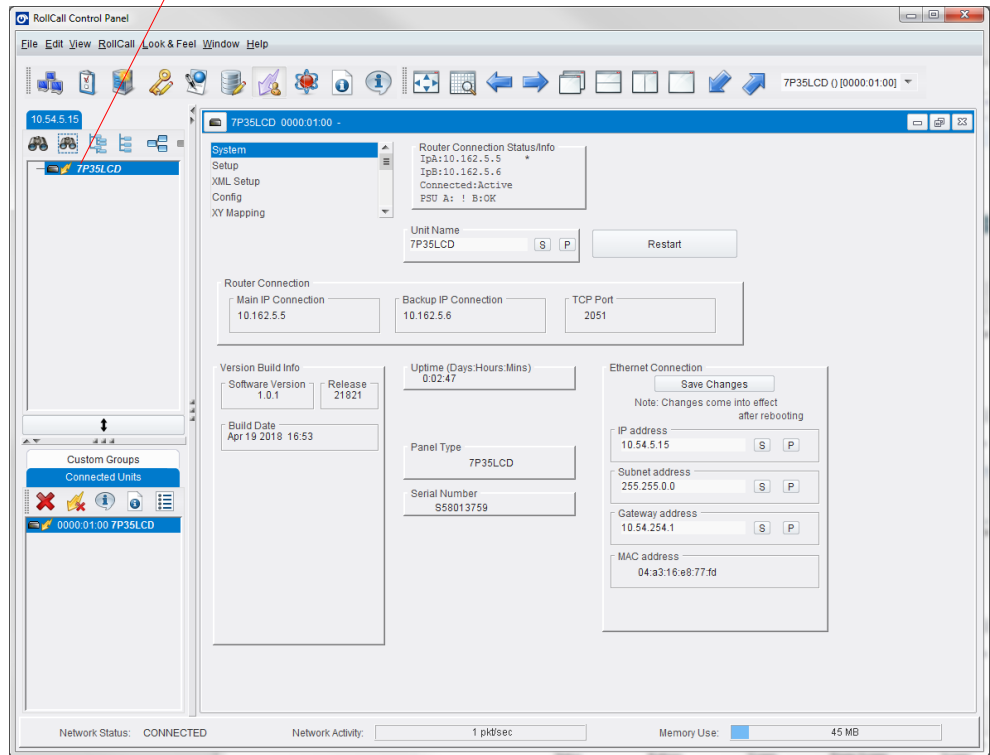

Fig. 6-4: RollCall Control Panel Connected
- 5 After a short period displaying "Rendering Template", the first template is shown, see Figure 6-4.